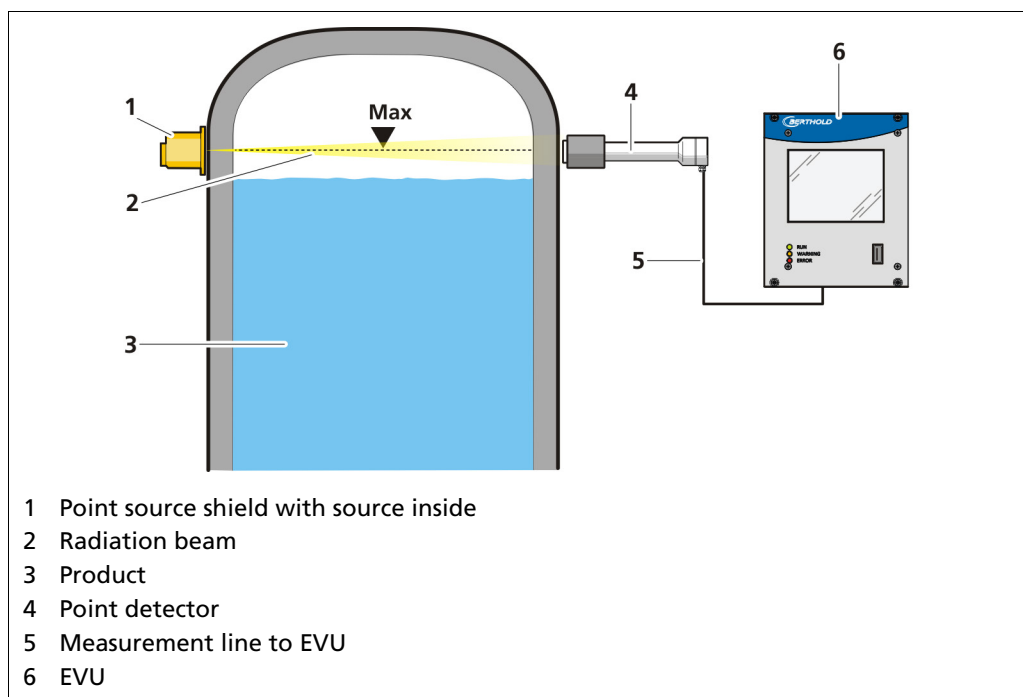

Fig. 1 Example measurement arrangement
The shielded radiation source (Fig. 1, item 1) is installed outside the container on the level to be measured. A detector (Fig. 1, item 4) is installed on the opposite side of the container. The evaluation unit (Fig. 1, item 6) is connected to the detector by a 2-wire line (Fig. 1, item 5). If the level of the medium inside the container comes up to the level of the detector or the source, the radiation is absorbed and the evaluation unit sends a corresponding signal.